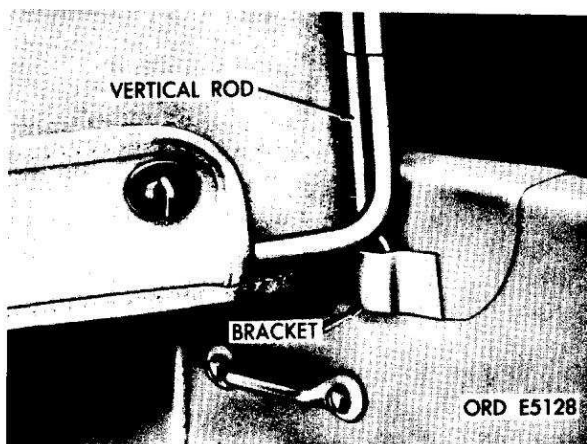

Figure 4-11. Fitting the rods to the body.
f. Slip the bottom end of vertical rod assembly located on forward edge of door into the bracket on vehicle body, as illustrated by figure 4-11.